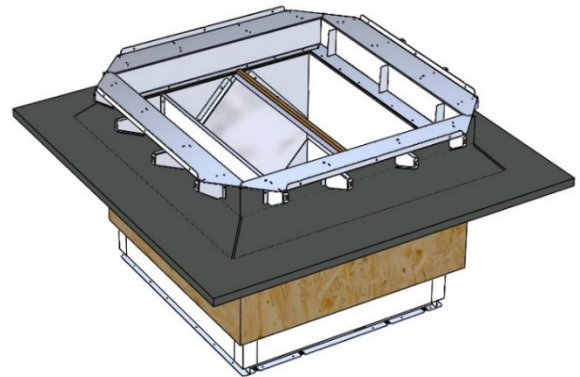

Figure 14 – Heat exchanger final position.
2. Ensure upper perimeter of the heat exchanger sits evenly on the plywood upstand - *see figure 14.*